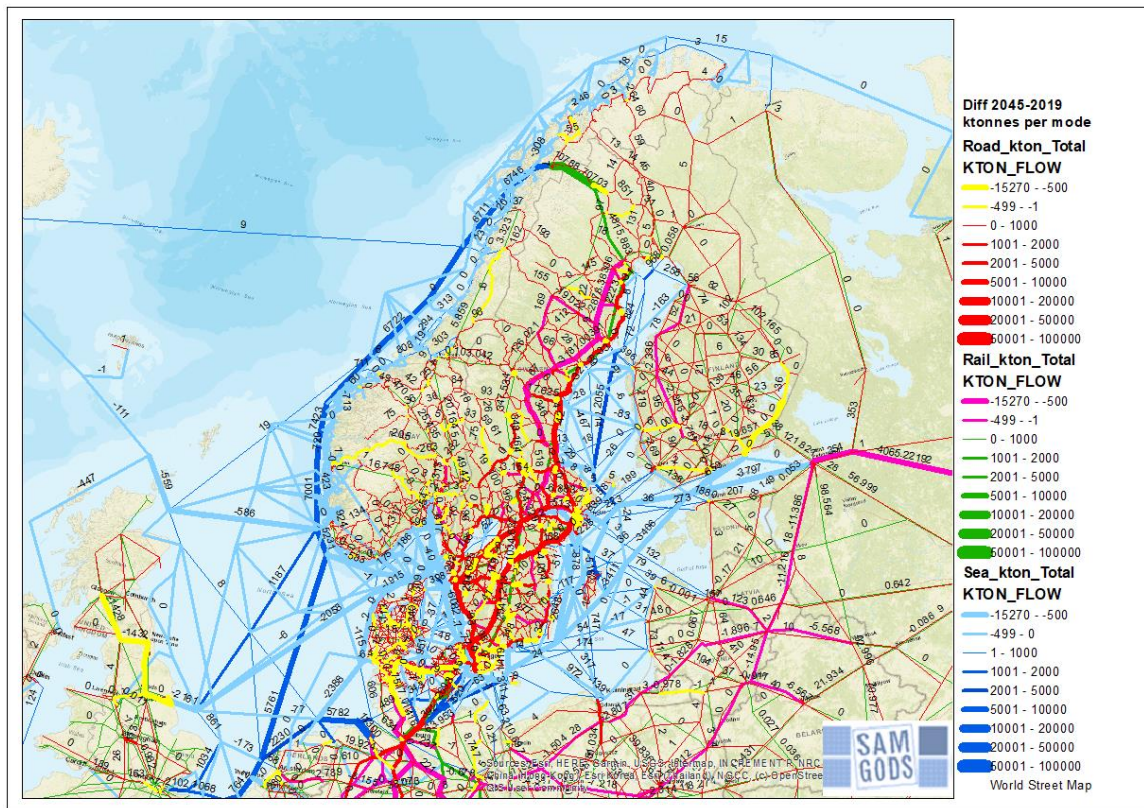

Figure 114 Standard map on ktons for total and commodity groups
- 3) Data Panel\Scenario Outputs\Compare\GIS maps – for differences on total Ktons by commodity group, see Figure 114.